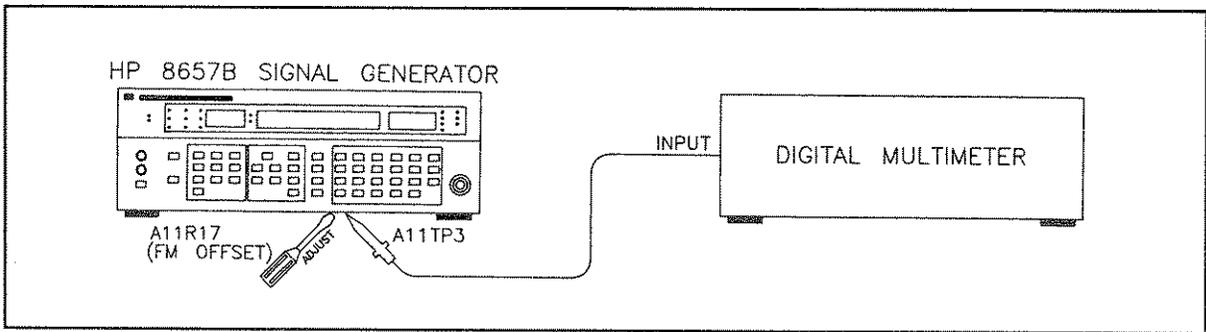

Figure 5-12. DC FM Offset Adjustment Setup
4. Connect the digital multimeter to A11TP3 as shown in Figure 5-12.